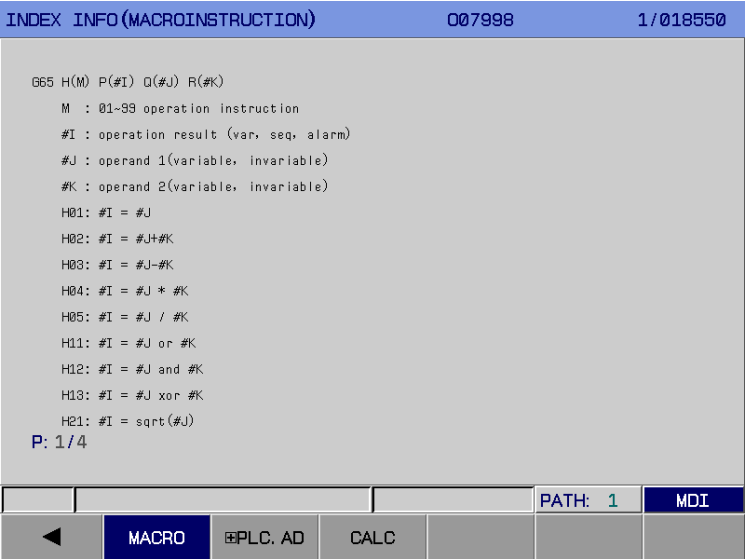

Fig.3-10-7
6. Macro page In <HELP> page, press soft key 【MACRO】 to enter this page, as is shown in Fig.3-10-7: